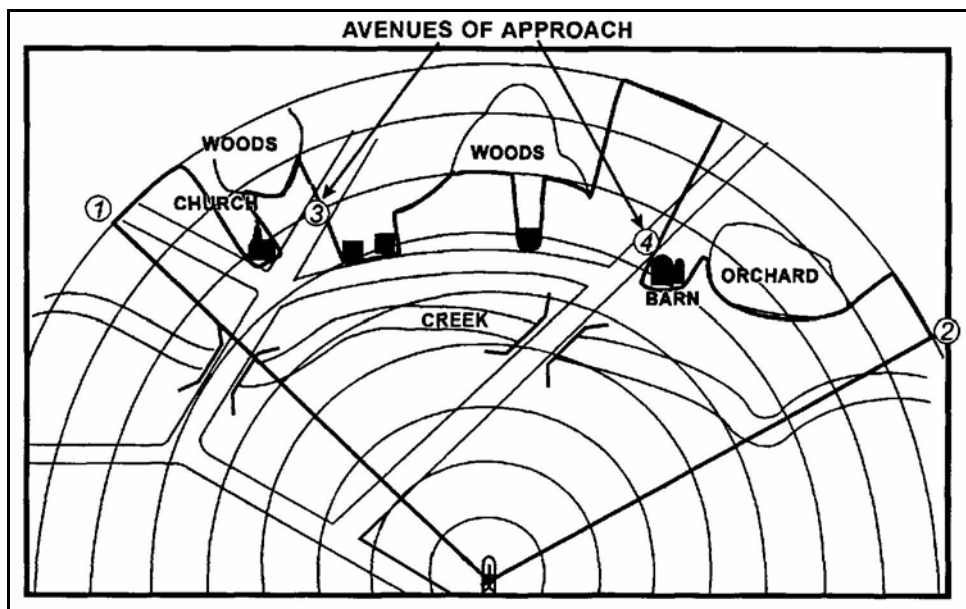

Figure B-7. Avenues of approach.
e. **Avenues of Approach.** Avenues of approach are areas where a target is most likely to appear or most likely to travel. This area can be a natural line of drift or a road. Tracked and wheeled vehicles may or may not use the same AA. Starting from the left and working to the right, number the areas where targets are likely to appear. Start with the number three since the numbers one and two have already been used to mark the left and right limits. Place a circle around each number. Continue until all identified AAs have an assigned number (Figure B-7). ***Record the azimuth and distance to each AA in the data section.***